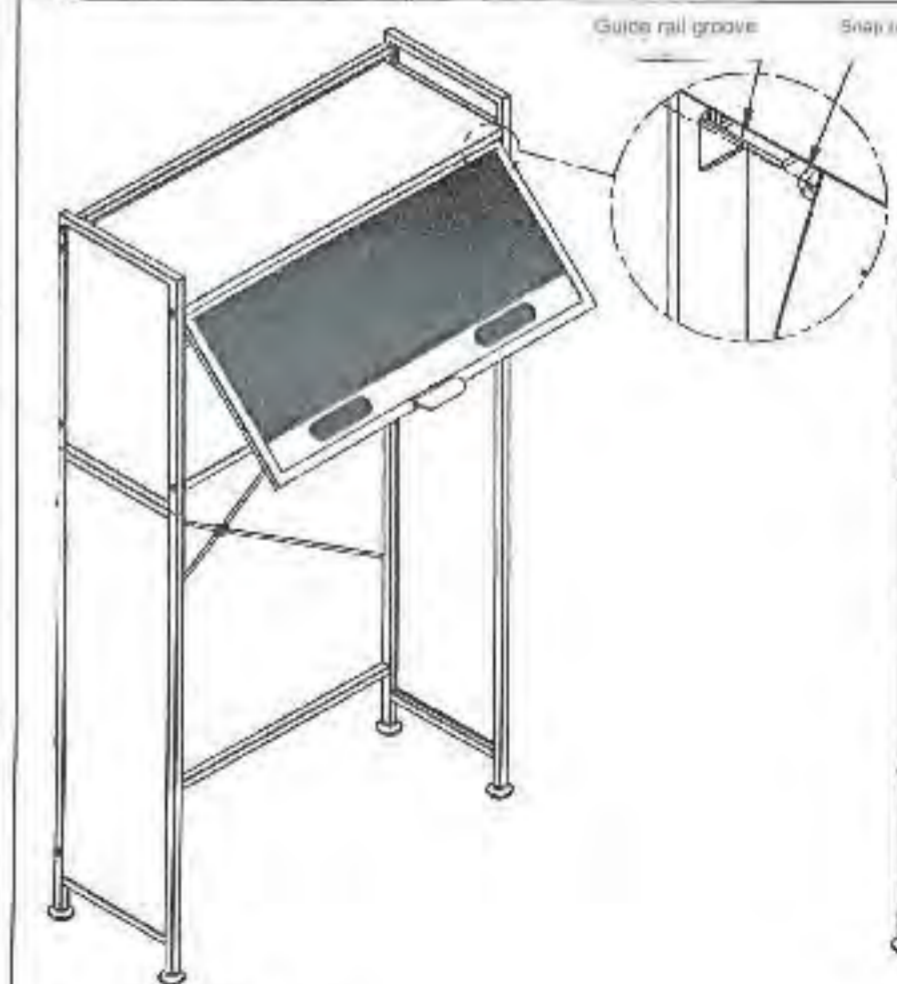
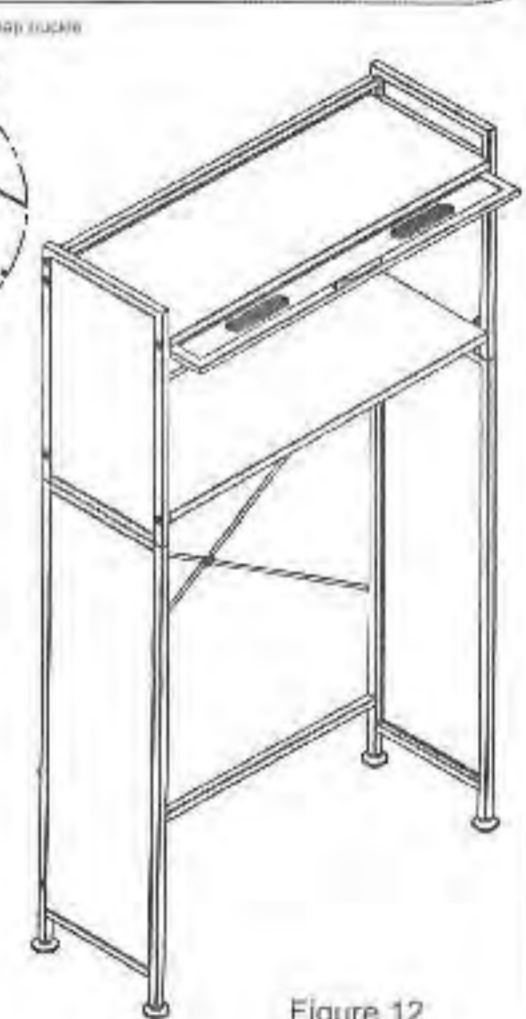

Figure 11
Figure 12
7. Press the spring buckles on both sides to snap into the door frame into the guide rail grooves of the left and right upper and lower side frames, as shown in Figure 11. The door frame is retracted as shown in Figure 12.